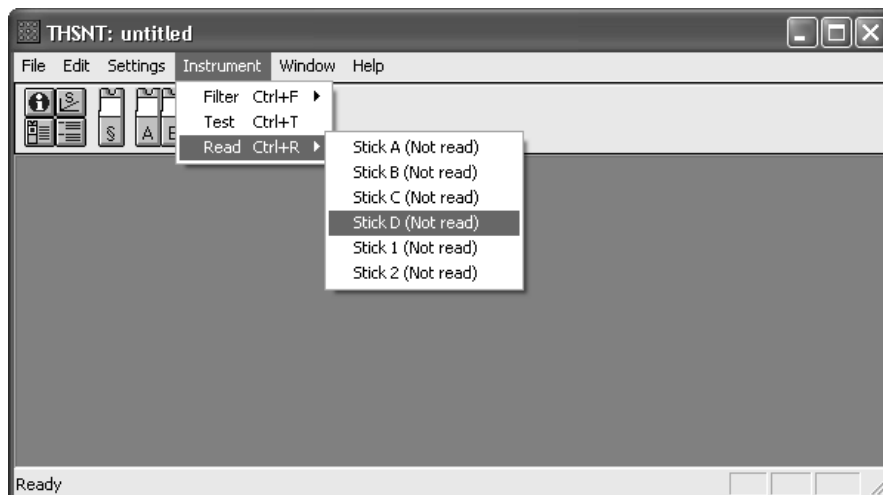

Figure 4-12: The Stick Read Menu
- 1) Select **Instrument, Read**, and highlight the name of the stick to be read (ALT, I, R), (Figure 4-12).